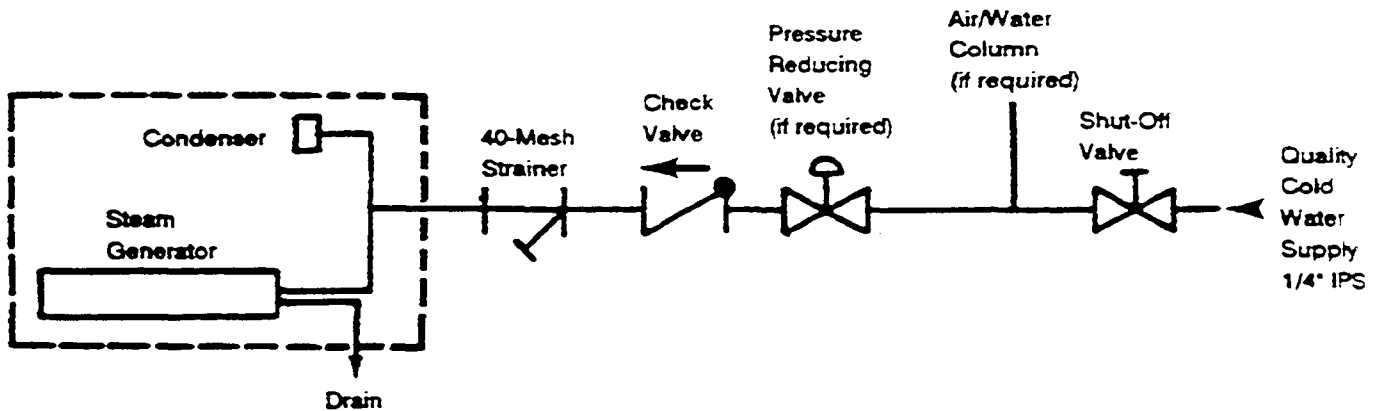

Figure 2-13. Single Water Connection
Furnishing and plumbing the water supply lines is the responsibility of the owner and/or installer. Figures 2-13, 2-14, and 2-15 illustrate plumbing layouts recommended by Cleveland Range. When installing water supply lines, observe the following instructions.
5. When a water treatment system is not installed, Cleveland Range recommends the plumbing layout illustrated in Figure 2-13.
1. Refer to Figure 2-13-